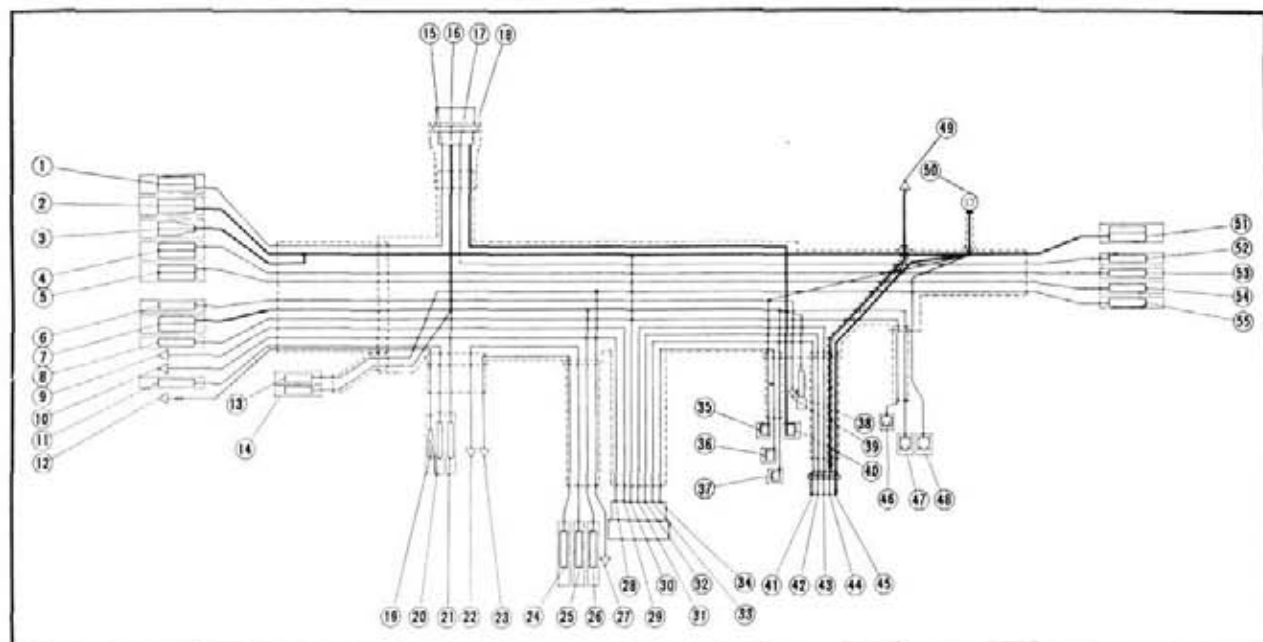

Fig. 16-29
1. Perform the continuity test for each socket connected wire leads in the same color. (Fig. 16-29)